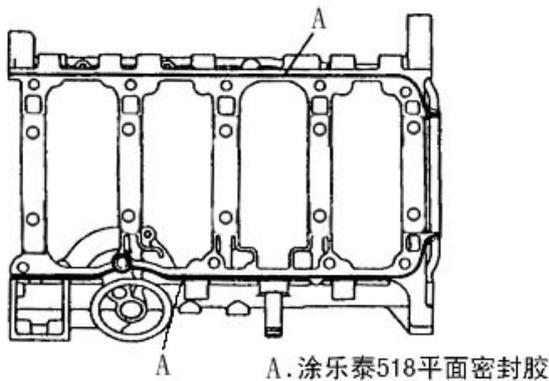

Fig. 4-143
4) After applying sealant on the matching face of crankcase as shown in Fig. 4-143 position "A", install it to cylinder block.